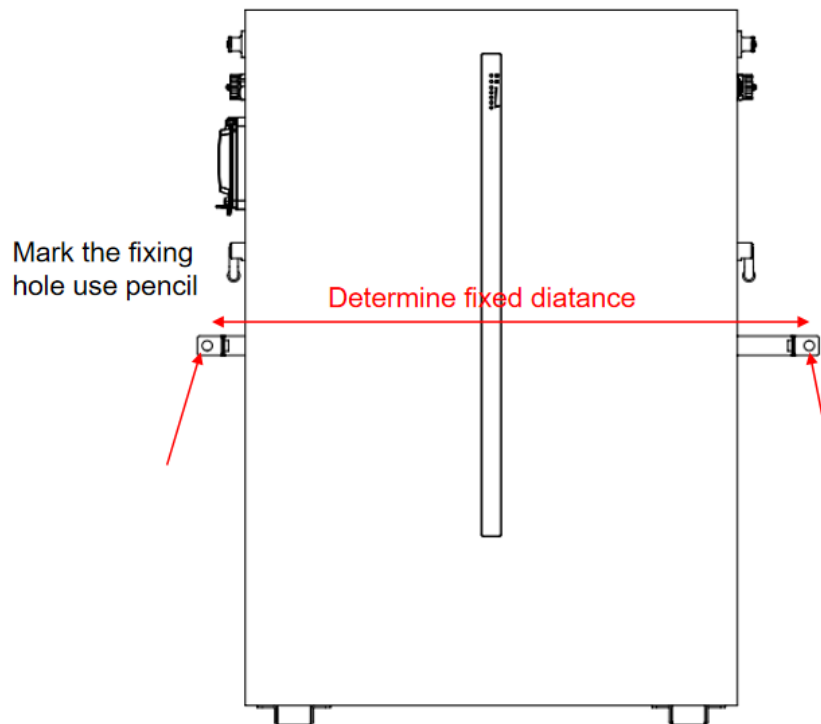

Figure 5-5
f) Stand the battery on the side of the wall, mark the location of the fixing hole, Choose the recommend drill head (as shown in below picture) to drill 2 holes on the wall,100-110mm deep, as shown in Figure 5-2 and Figure 5-5.